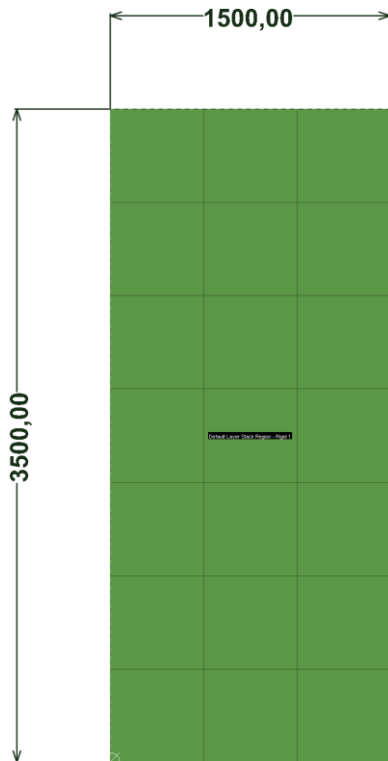

Figure 2. Defining the first Board Region (Mils)
8. Select the Board to see the handles. Modify the existing Board shape to specify the first board region by selecting and moving the Board outline. Refer to the current cursor position in the Status Bar in the bottom left corner or the x, dx, y, dy information at the Heads Up Display. Use the dimensions below as a reference, Figure 2.